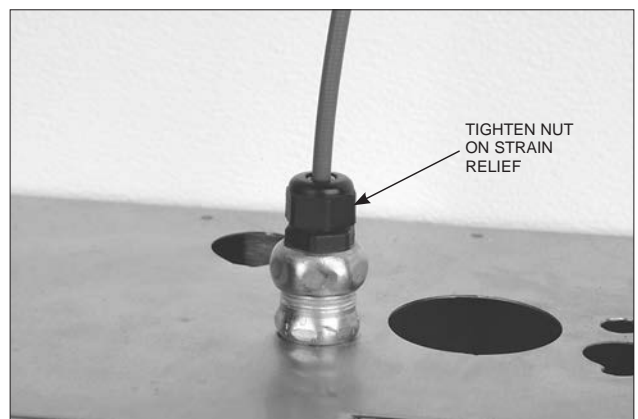

FIGURE 5-61
- 10. Tighten the strain relief nut onto the strain relief. See Figure 5-61.